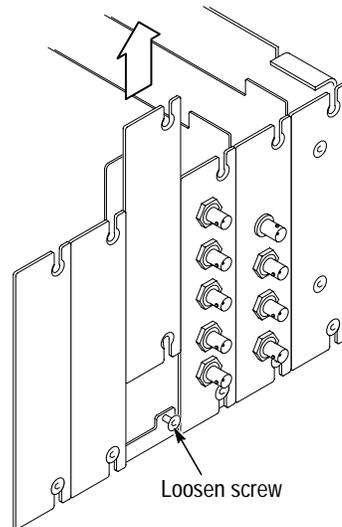

Figure 2-3: Rear panel removal
5. Remove the appropriate rear panel as shown in Figure 2-3. Loosen, but do not remove the bottom screw. You will use it later to secure the module.